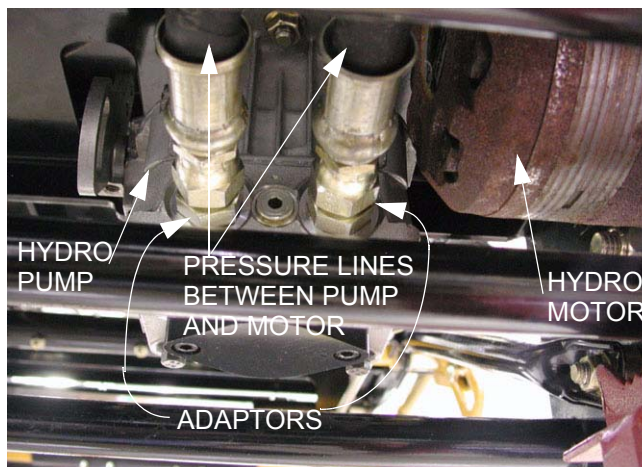

Figure 5.20
- 5.20. Disconnect the two lines that connect the hydro motor to the back of the hydro pump using a pair of 7/8" wrenches. Plug the lines. See Figure 5.20.